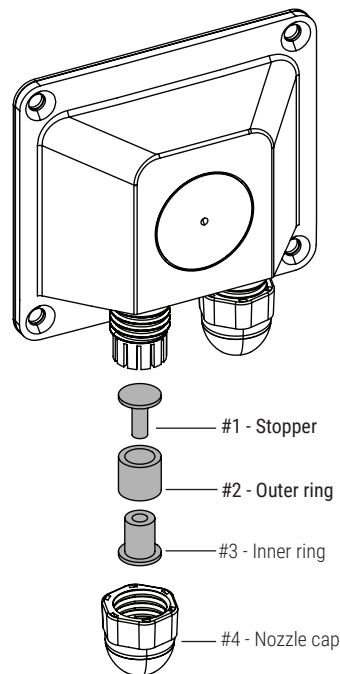

Figure 4
- For thicker wire (12/2 or CAT5/6 cabling (5-7 mm)): Use the outer part of the plug alone (#2 in Figure 4 above) to create a weatherproof ring.
- For thinner wire (14/2, 16/2, or 18/2 cabling): Use the inner part of the plug (#3 in Figure 4 above) together with the outer part (#2 in Figure 4) to create a weatherproof ring.